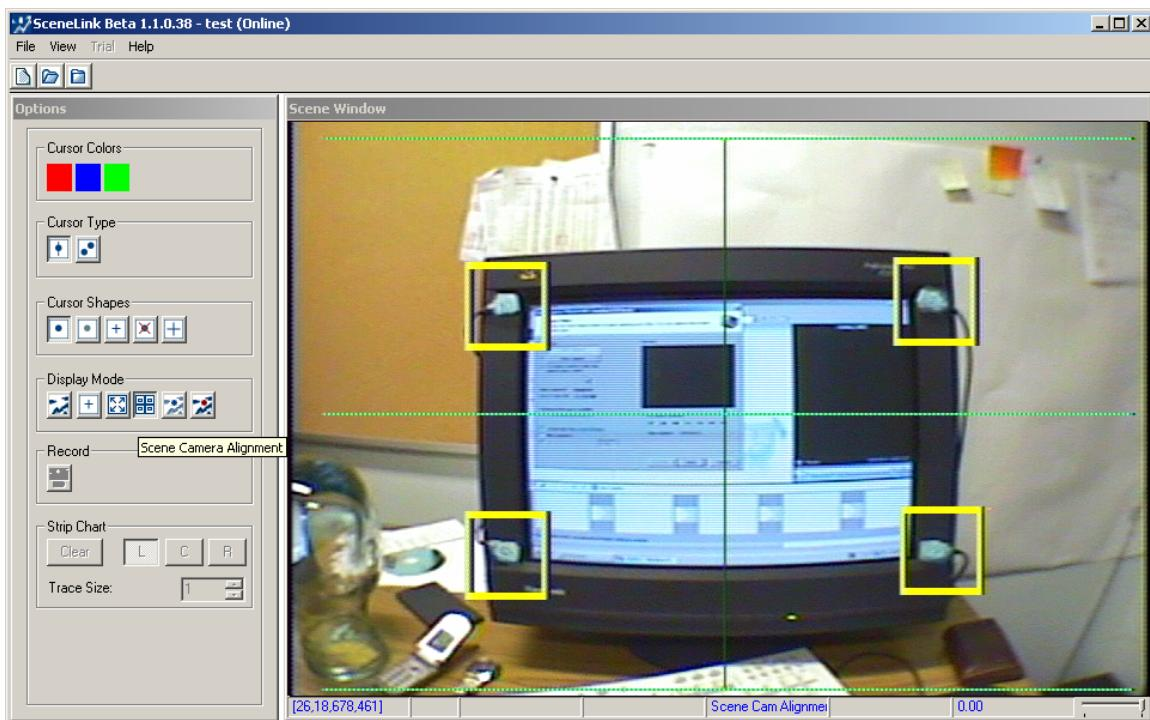

Figure 4-6: Optical Alignment between the Scene Camera and Head Camera.
- Ask the participant to fixate at the center of the display PC monitor. Head movements may be required to ensure that there is only one marker in each quadrant of the overlay display (separated by colored lines) and that each marker is reasonably distant from other markers (see Figure 4-6). Avoid having the markers showing up too close to the corner of the overlay display as the optical lens distortion is less well compensated there.